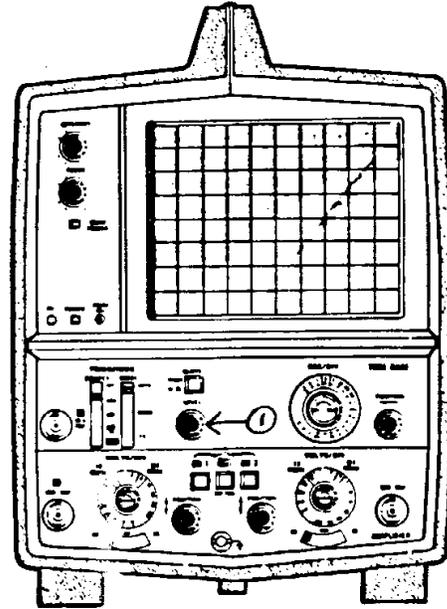
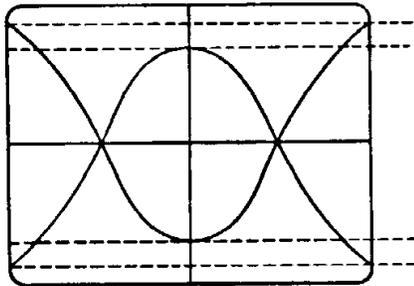

FIGURE 10
FIGURE 11
13. Type 16 and press RETURN. Turn the level dial (Figure 10, #1) on the oscilloscope all the way to the left and then back to the right until a "lobe" pattern first appears. (Figure 11). For this test you will be comparing adjacent lobes (Figure 11). You will adjust the lobes so that their relative sizes are as close to the same size as can be adjusted.